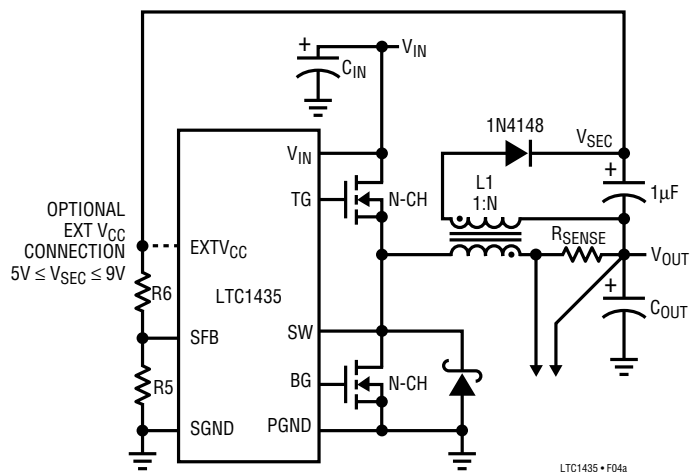
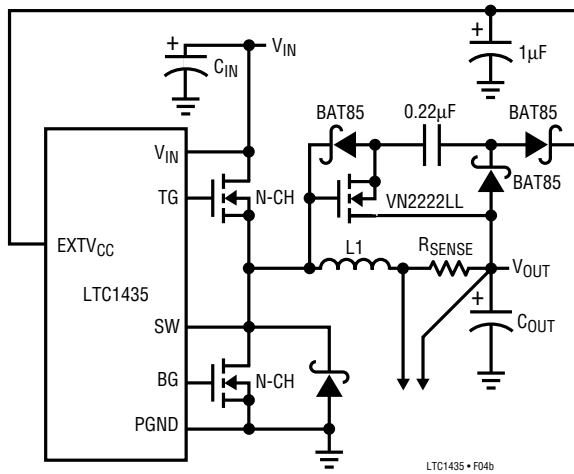

Figure 4a. Secondary Output Loop and EXTV_{CC} Connection
Figure 4b. Capacitive Charge Pump for EXTV_{CC}
3. EXTV_{CC} connected to an output-derived boost network. For 3.3V and other low voltage regulators, efficiency gains can still be realized by connecting EXTV_{CC} to an output-derived voltage which has been boosted to greater than 4.8V. This can be done with either the inductive boost winding as shown in Figure 4a or the capacitive charge pump shown in Figure 4b. The charge pump has the advantage of simple magnetics.
The secondary output voltage is set by the turns ratio of the transformer in conjunction with a pair of external resistors returned to the SFB pin as shown in Figure 4a. The secondary regulated voltage, V_{SEC} , in Figure 4a is given by: